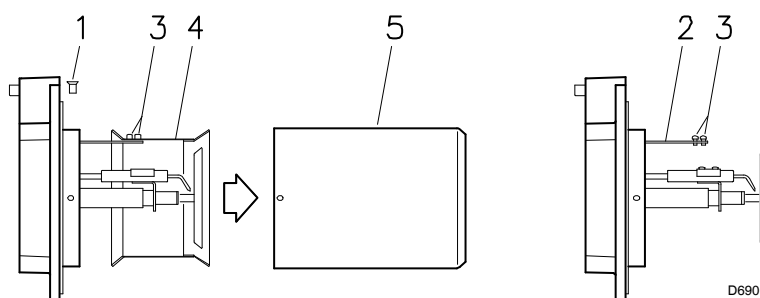

Fig. 7
### 5.5 Securing the burner to the boiler (Fig. 7)
- Unscrew the screws 1) (Fig. 7) and disassemble the blast tube 5)